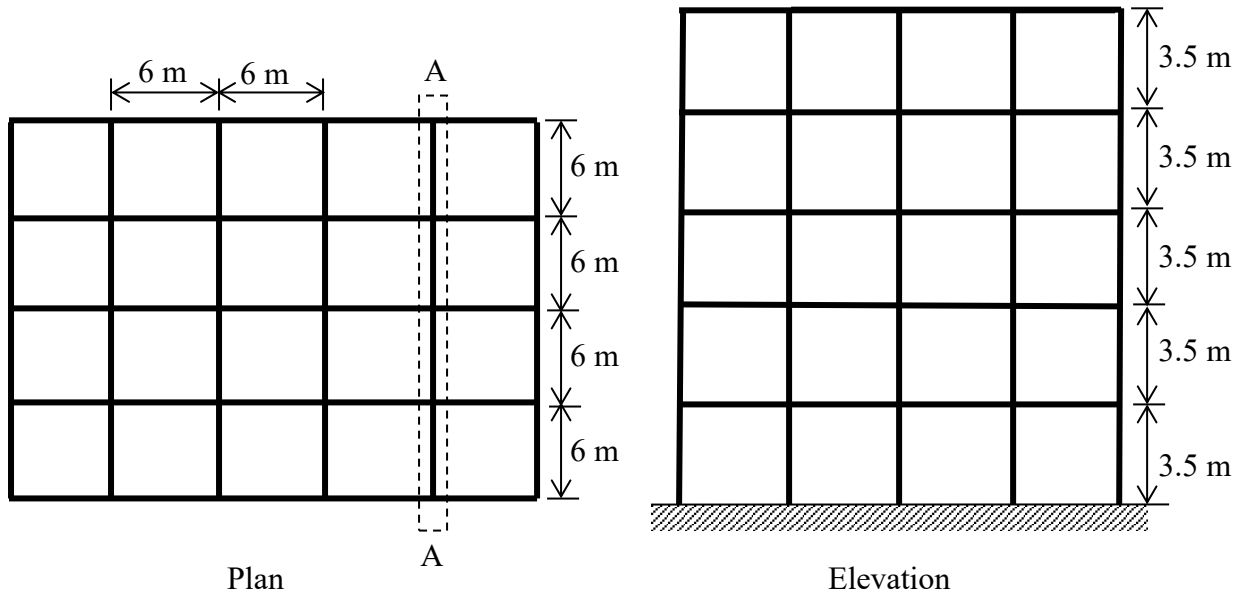

Figure 3
- (c). **Figure 3** shows a reinforced concrete shear wall building. The beams are 225 mm wide by 275 mm deep. The column sections are 300 mm by 300 mm. The dead load per unit area of floor slabs (150 mm thick) including screeding and plastering is 4.5 kN/m^2 . Assume full height brickwall of 115 mm thick is constructed on the beams from the ground to the fourth floor. The density of reinforced concrete and brickwall are 24 kN/m^3 and 18 kN/m^3 , respectively. The building has 5% damping and it is designed for Ductility Class Medium (DCM). The peak ground acceleration at the site is $0.16g$. The land is of high intensity characterized by earthquake with a surface wave magnitude of 6.5. The soil profile at the site is given in **Figure 4**. Determine the seismic forces for Frame A-A in accordance with EC8.